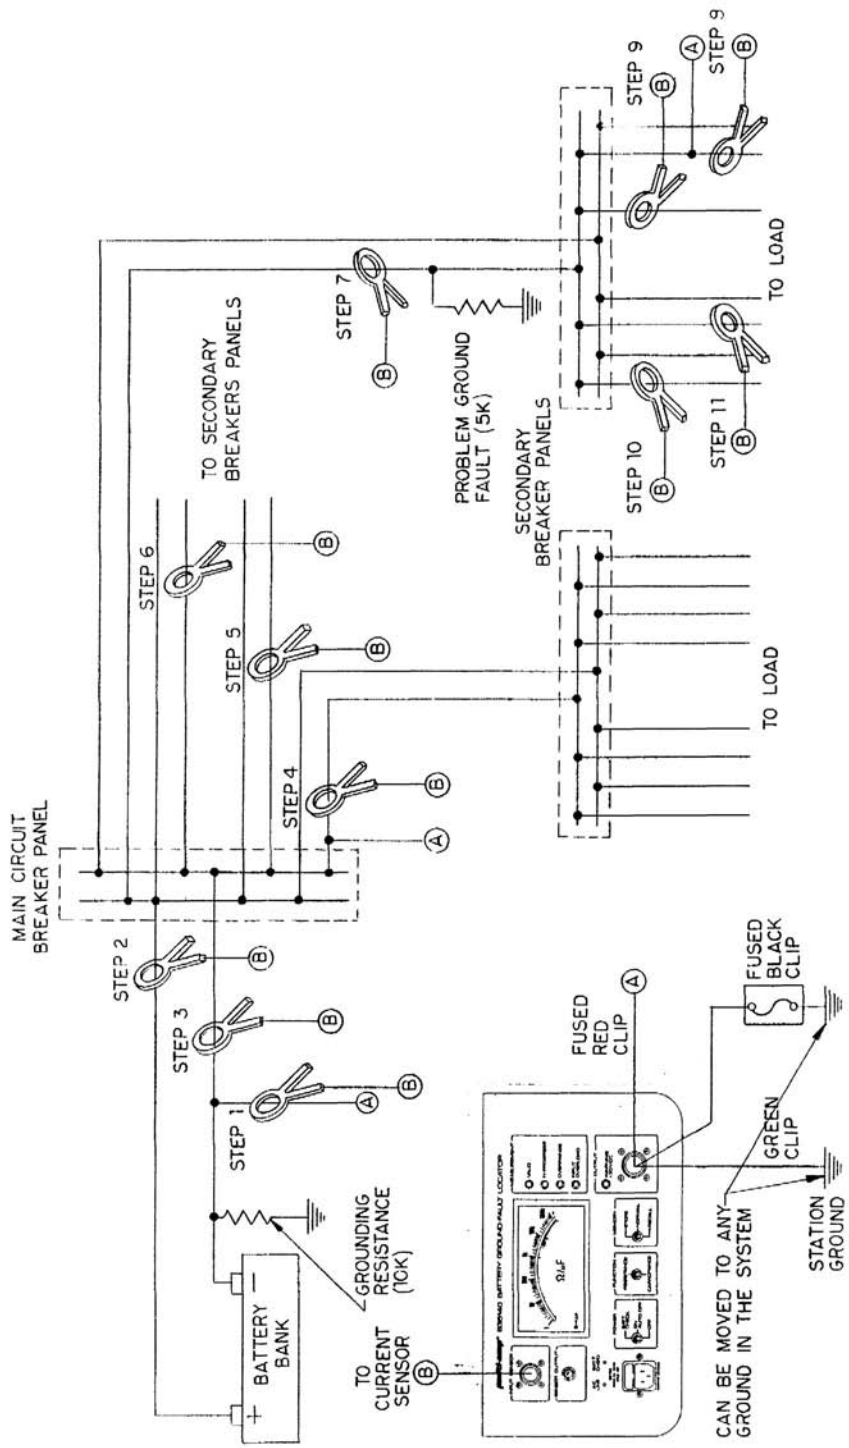

Figure 4-5: Locating Ground Faults
Refer to Figure 4-5 for further clarification of procedure.
The procedure used in Figure 4-5 outlines the steps required to locate a ground fault at its worst location. Following this procedure will typically take fewer steps to locate most faults.
2. Clamp C.T. as per Figure 4-5.
1. Clamp C.T. as per Figure 4-5.
3. Clamp C.T. as per Figure 4-5.